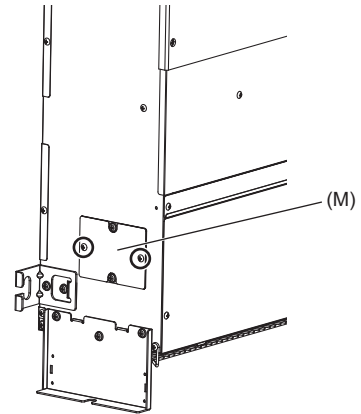

Fig.20
- (1) Remove the two fixing screws on the bearing cover (M) to remove it. (Fig.20)